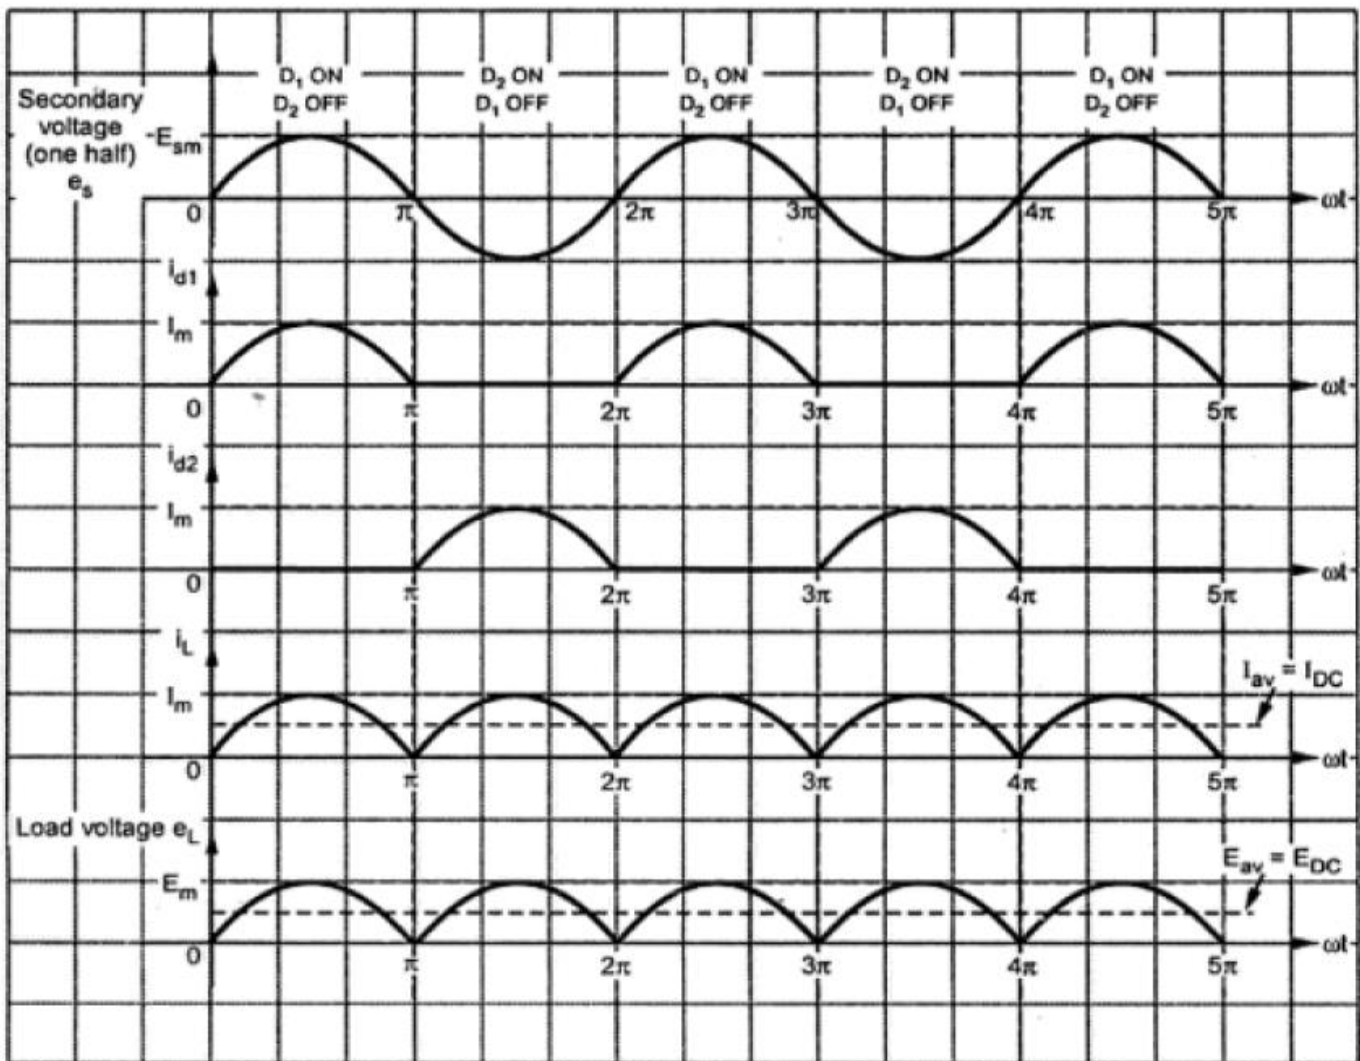

Fig. 2.4 Waveforms for Full wave rectifier
- Consider the positive half cycle of a.c. input voltage in which terminal (A) is positive and terminal (B) negative.
- The diode current and the load current are illustrated in the Fig. 2.4.
- During negative half cycle of a.c voltage, polarity reverses and terminal (A) becomes negative and (B) is positive.